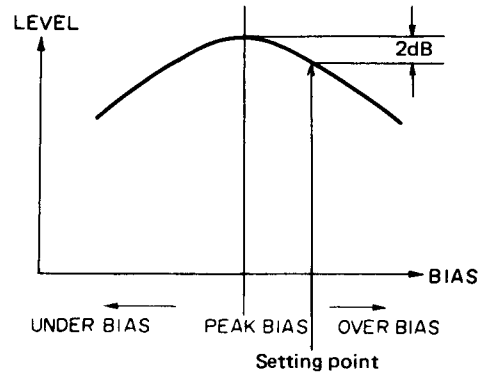

Fig. 5-12 Bias setting point
3. Adjust the VR303 (Lch) and VR304 (Rch) so that the AC mV meter reads the maximum output level, and then bring back until the output level drops 2dB (Fig. 5-12).